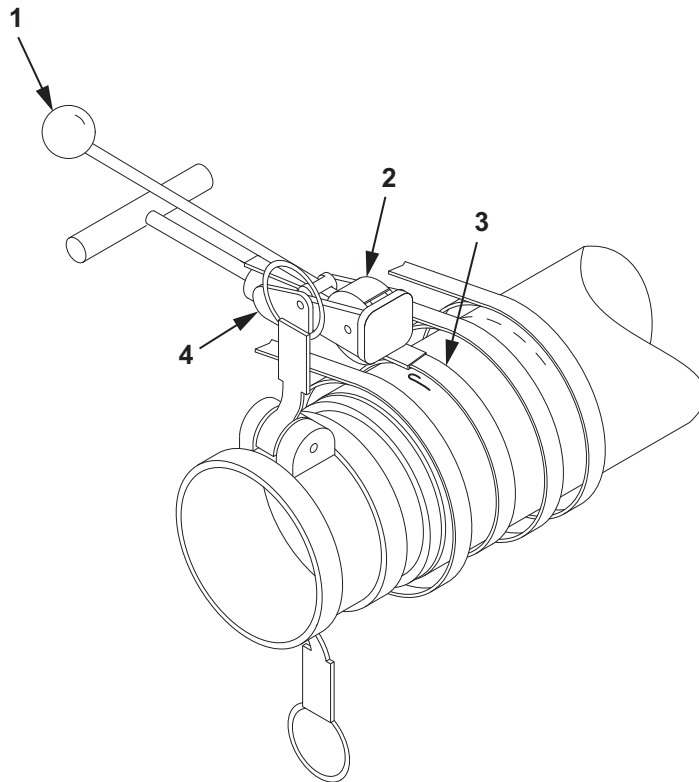

Figure 8. 4 In. X 10 Ft. Discharge Hose Repair.
17. While holding the clamping tool handle (Figure 8, Item 1) in the down position, strike the center punch anvil (Figure 8, Item 2) three to four times with a hammer.
18. While still holding the clamping tool handle (Figure 8, Item 1) in the down position, raise the entire clamping tool (Figure 8, Item 4) up to shear the tail of the band off of the clamp (Figure 8, Item 3).
19. Using hammer, tap the edge of the distorted clamp (Figure 8, Item 3) down to a level configuration.